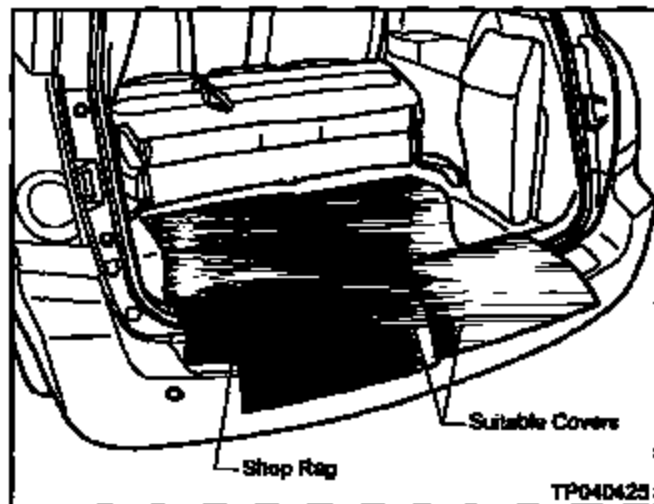

Figure A2
1. Place some cloth fender covers over the rear area carpeting and rear bumper (see Figure A2).